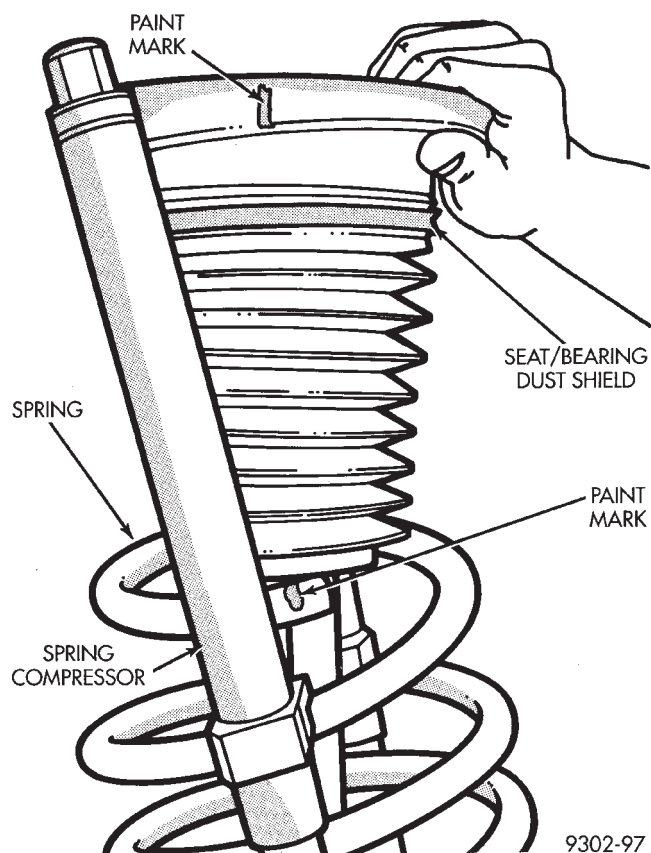

Fig. 9 Seat/Bearing And Dust Shield Installation
(4) Lower seat/bearing and dust shield onto strut assembly and spring. Align paint mark on seat/bearing and dust shield, with paint mark on the strut spring (Fig. 9).